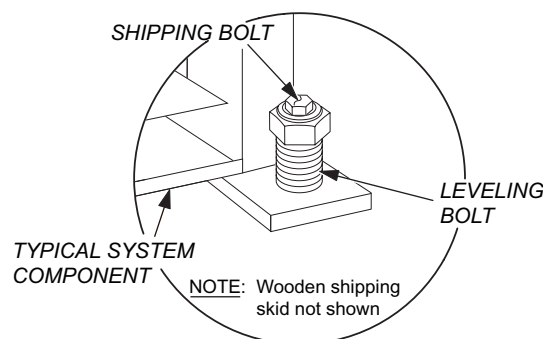

Figure 9 Removal of Typical Shipping Bolt
1. Unbolt each component from its shipping skid or block using a 3/4-inch socket (see Figure 9).